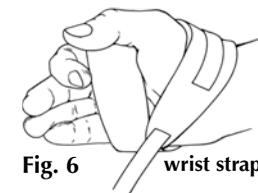
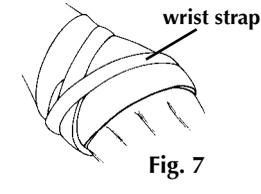

Fig. 6
Fig. 7
2. Wrap the wrist strap across the palm and attach starting near the base of the small finger and continuing toward the space between thumb and finger (Fig. 6). Properly secured straps should form an X or V pattern when viewed from the back of the hand (Fig. 7). Snug the Cuff enough to prevent movement on the hand but not so tight as to cause discomfort or finger swelling.